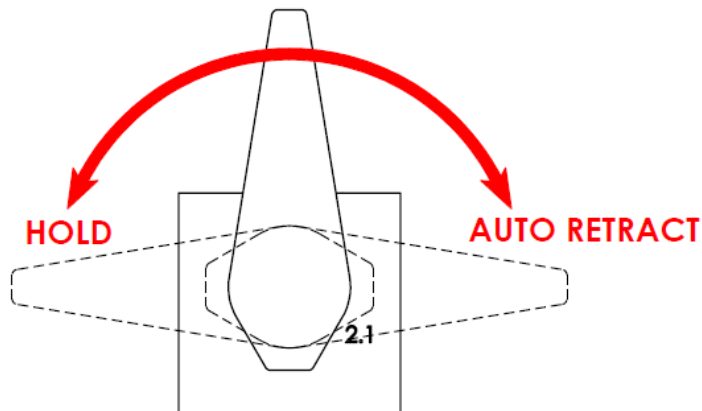

Figure 6.1: 3-Way Directional Control Valve
For 3-way valves, turn the level fully clockwise - "auto retract" (See figure 6.1).
1. Set the adjustable pressure relief valve (8) if required. See section 6.1 for details.
2. With all hydraulic connections and an electrical connection made turn the pump on by pressing the green 'ON' button (12).
3. Operate the directional control valve (6) to control the cylinder/s or tool/s in use. Turn the lever fully clockwise for 'auto retract' and fully anti-clockwise for 'hold' functions. (See figure 6.1)